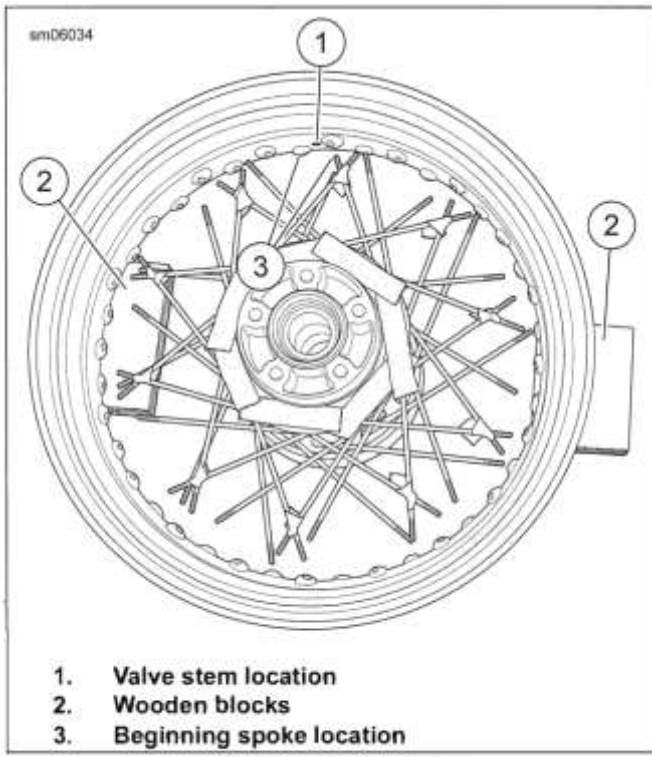

Figure 3-18. Place Rim
- See Figure 3-18. The valve stem hole location (1) is centered on the rim so rim orientation is not important.
See Figure 3-18. Center the rim over the hub/spoke assembly. Rotate so valve stem hole (1) is near a pair of taped spokes. Support on wooden block (2):
See Figure 3-18. Remove tape from each upper bundle and fan the spokes out toward the rim.